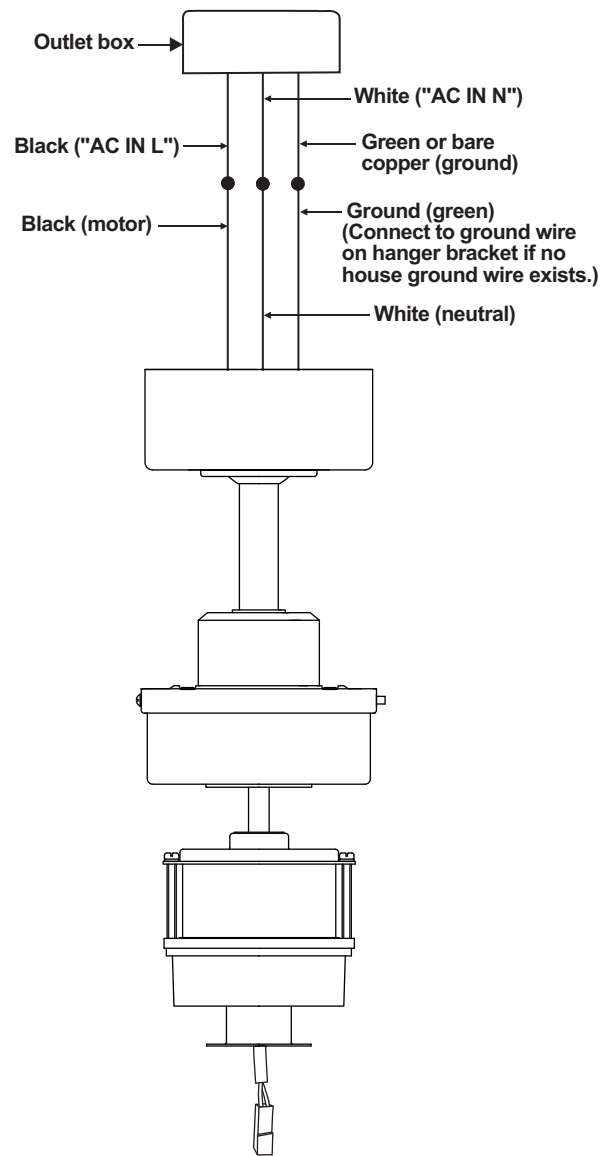

Figure 9
1. Connect the fan supply (black) wire to the black household supply wire as shown in Figure 9.
2. Connect the neutral fan (white) wire to the white neutral household wire. (Fig. 9)